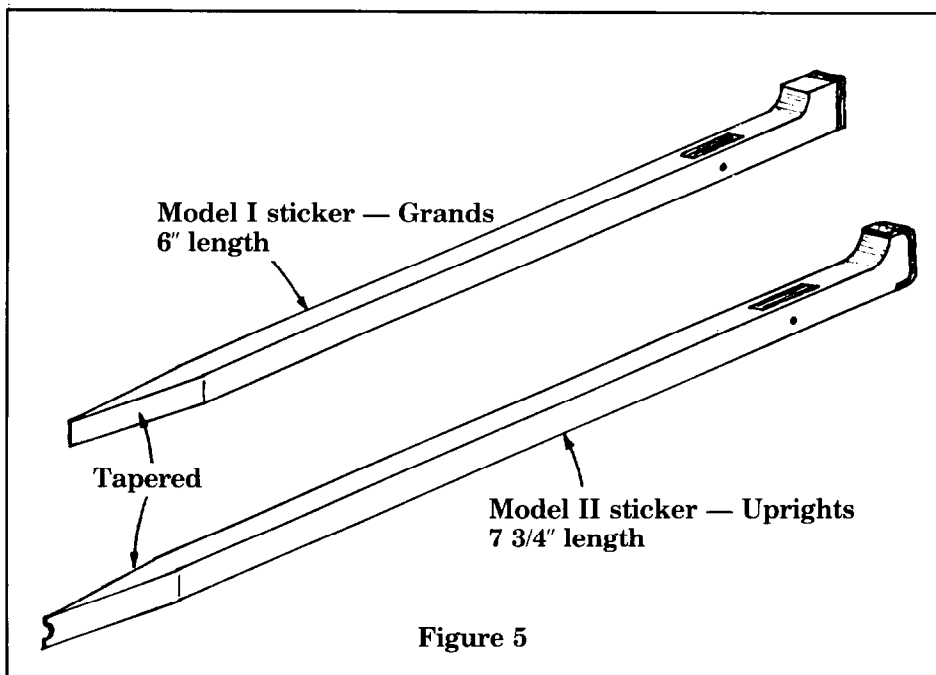

Figure 5
*become very useful. Enclosed is an illustration of Models I and II (See Figure 5....ed.)*